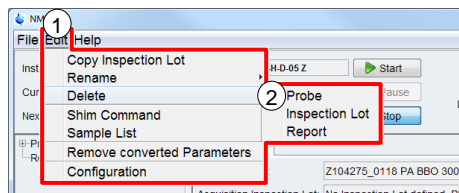

Figure 5-23: Delete Probe in menu
To delete a probe from *NMRPT*, on the **Edit** menu shown in Figure 5-23 (1), point to **Delete**, and click **Probe** (2).